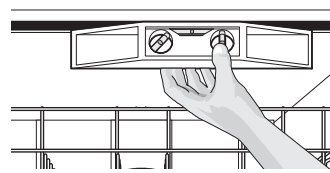

Figure 9a
6. Check that dishwasher is level from side to side by placing a level against the top front section of the tub. See **Figure 9a**.